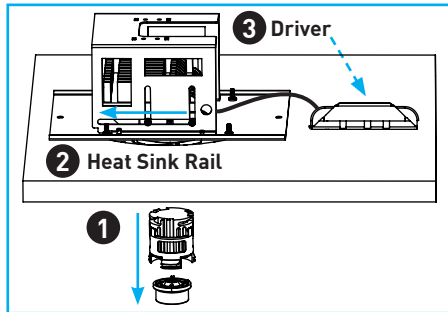

Fig.24
- A. Remove baffle by inserting baffle removal tool referenced in Section I-1 and carefully prying down (Fig.24). Remove optic from LED module by twisting counter clockwise.
- C. Gently push assembly along heat sink rail, away from driver assembly, to provide sufficient clearance. (Fig.24).
- E. Carefully pull on driver wiring harness to release the driver from the spring tab. Remove driver through housing aperture. (Fig.24).